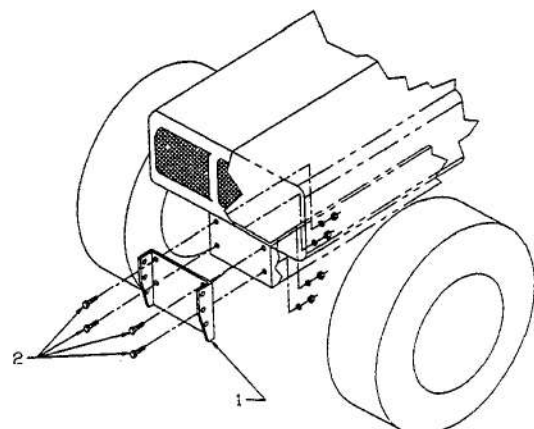

FIGURE 8
- Install front support bracket (fig.8, item 1) using bolts and lockwashers from bumper (fig.8, item 2). Tighten securely.